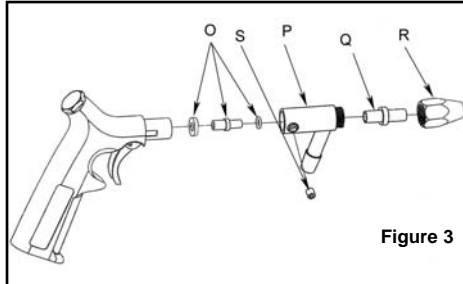

Figure 3
2. Loosen the allen socket screw (S) from the tool with the hex key wrench (included).
3. Remove the nozzle assembly (P).
4. Remove the air jet (O). **NOTE: If the air jet is stuck, tap the nozzle assembly lightly until the air jet is dislodged.**
5. Gently drop the new air jet with washer and o-ring into the nozzle assembly (P) as shown in Figure 3.
6. Reassemble the nozzle assembly. Tighten the allen socket screw (S) securely, making sure that it is seating in the proper groove on the gun handle. **NOTE: Insure that the nozzle assembly is holding the air jet and rubber sealing washer tight against the gun body.**